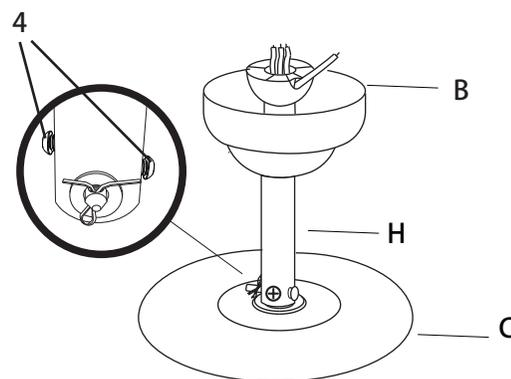

Figure 5
- Push the pivot pin through the motor shaft and downrod holes (Figure 5). Pivot pin's insert end is of special designed cone shape, it would push away and won't harm the wires inside the downrod. Secure the pivot pin by inserting the split pin and bending the ends to prevent it from falling out of the holes (Figure 5).
- Secure the motor shaft and downrod by tightening the screws (4) on the downrod (Figure 5).